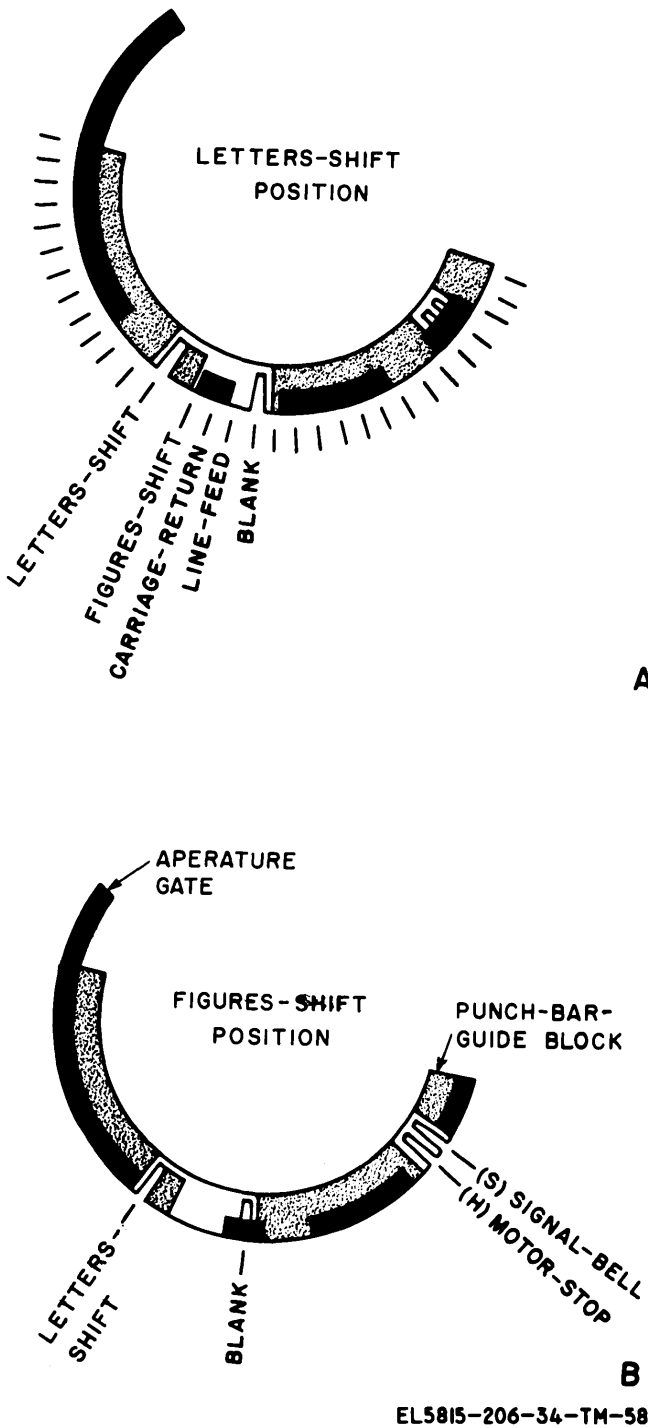

Figure 2-58. Location of stopped positions of function-selecting arm after receipt of function code groups.
d. *Suppression of the Signal-Bell Operation.* When the platen is in the letters-shift position, the aperture gate also is in the letters-shift position (A, fig. 2-58 and A, 2-59). When the letter S code group is received under this condition, the type-selecting arm causes the letter S to be printed (para 2-21). The function-selecting arm is not permitted to push the signal-bell punch bar inward to ring the signal bell because a blocking portion of the aperture gate blocks inward movement of the punch bar. The lobe of the function-cam causes the lower end of the function-cam follower to move counterclockwise, and the carriage-feed operation occurs (para 2-22). When the platen is in the figures-shift position, the aperture gate also is in the figures-shift position (B, fig. 2-58 and B, 2-59) of the signal-bell mechanism and the motor-stop mechanism (para 2-35).
d. *Suppression of Motor-Stop Operation.* When the platen of the page printer is in the letters-shift position, the aperture gate (fig. 2-58 and 2-59) is in the letters-shift position also. When the letter H code group is received under this condition, the type-selecting arm causes the letter H to be printed (para 2-21). The function-selecting arm is not permitted to push the motor-stop punch bar inward to stop the motor, because a blocking portion of the aperture gate blocks inward movement of the punch bar. The lobe of the function cam causes the lower end of the function-cam follower to move counterclockwise, and carriage feeding occurs (para 2-22).